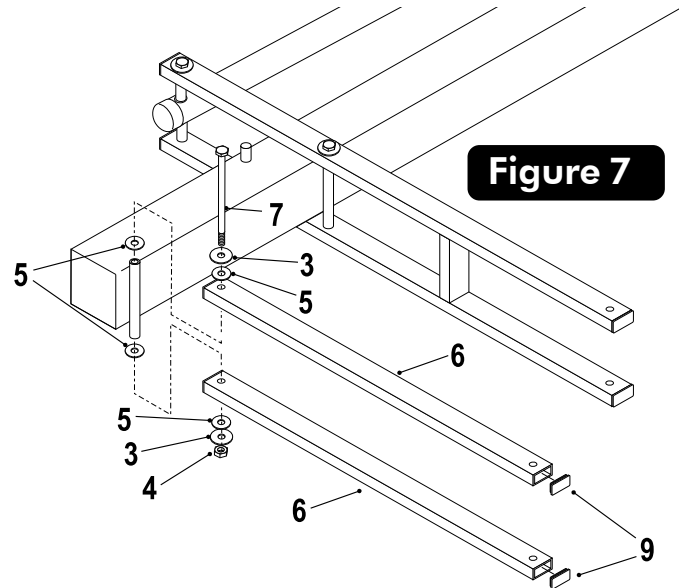

Figure 7
8. Attach Upper Arms (#6) to Pole (#2), as shown in Figure 7, using a bolt (#7), two flatwashers (#3), four plastic washers (#5) and one hex nut (#4).